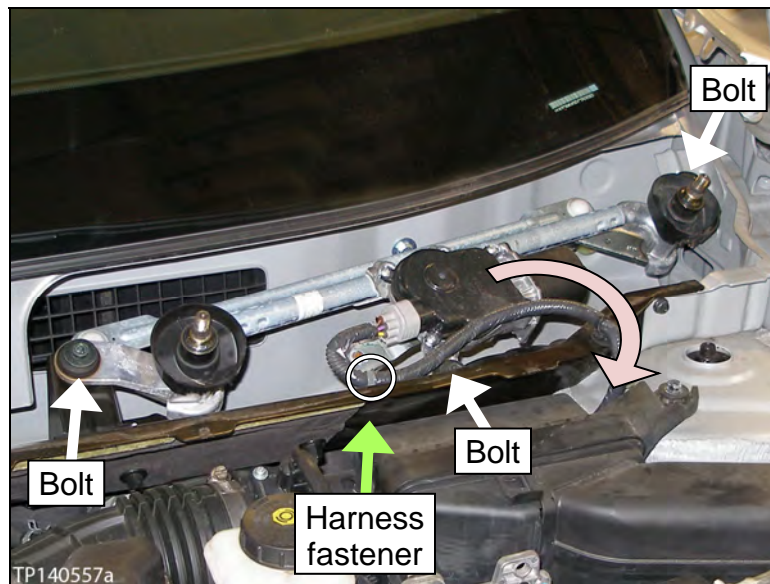

Figure 3a
2. If water is found on the driver side, remove the front wiper drive assembly and position where shown in Figure 3a.
- c. Move the wiper drive assembly out of the way (see Figure 3a).